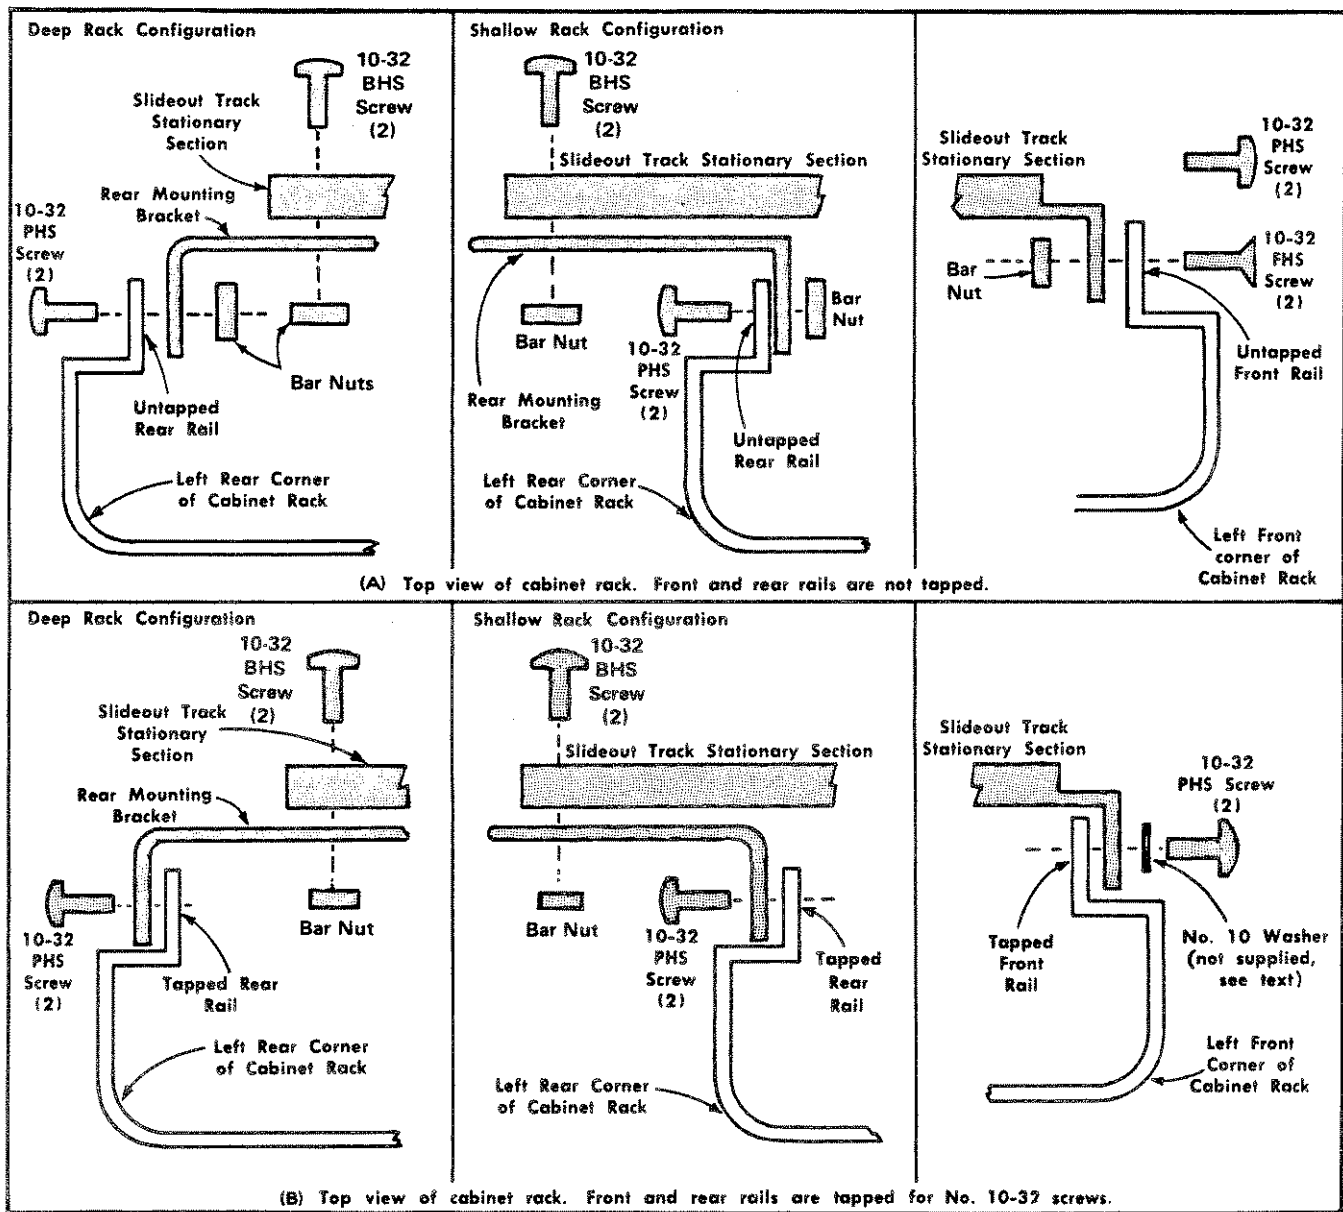

Fig. 1-4. Mounting the left stationary section (with its matched intermediate section, not shown in illustrations A and B) to the rack rails.
**Mounting Procedure.** Use the following procedure to mount both sides. See Fig. 1-4 for installation details.